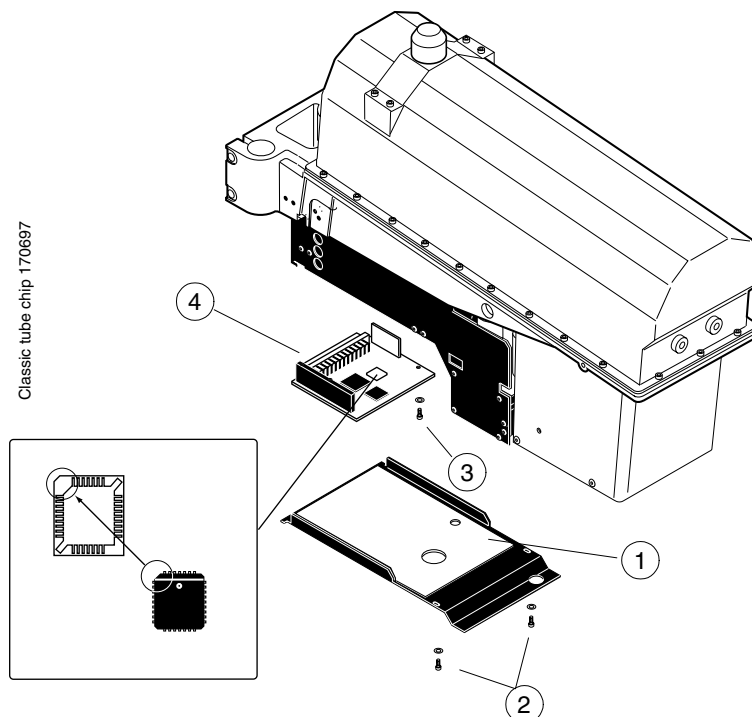

Figure H.10
- c) Remove the two screws and washers (Fig. H.10, 2) of the power supply cover (Fig. H.10, 1). Remove the cover.
- d) Remove the single screw (Fig. H.10, 3) holding the Tube CPU board (Fig. H.10, 4) in place and carefully remove the board by first pulling it from the edge connector until it opens.